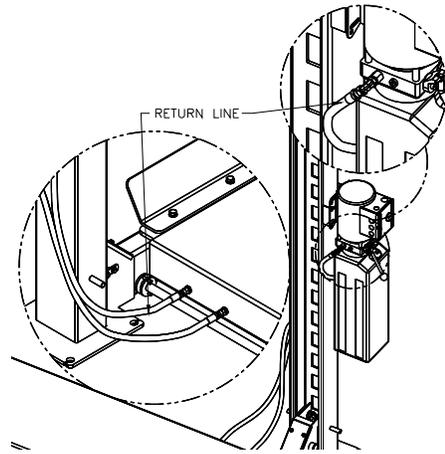

Fig 19 – Return Line, Front
- 35) Remove the 3/8-18 NPT plug on the side of the power unit and attach the 90-degree elbow at a slightly downward angle. Secure the hose to the bulkhead shown in Fig 19.